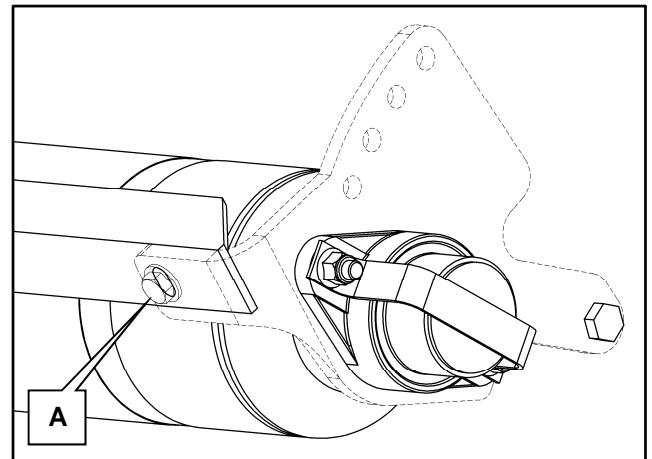

**Figure 6.7**
- a) Remove the three, drive guard three retaining bolts, remove the drive guard and refer to Figure 6.7.
- b) Check the belt tension (as in section 6.1.5.1 above). Then using a suitable marker, make a mark to note where the adjuster plate (B) currently sits on the cowl end plate.
- c) Slacken the main mounting bolt of the tension unit (A) from the other side of the cowl end plate.
- d) Loosen the adjusting plate locknut (C).
- f) When the belt tension is correct, first re-tighten the adjusting plate locknut (C) and then re-tighten the main mounting bolt of the tension unit (A).